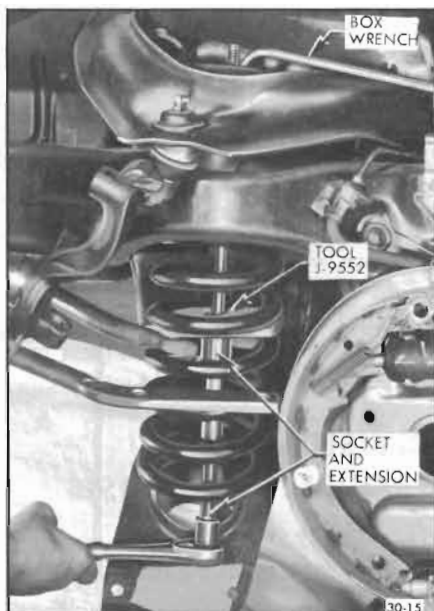

Figure 30-15—Installing J-9552 Compressor
- Install spring compressor J-9552 as shown in Figure 30-15.
- Position new spring in frame tower and install compressor. See Figure 30-15.